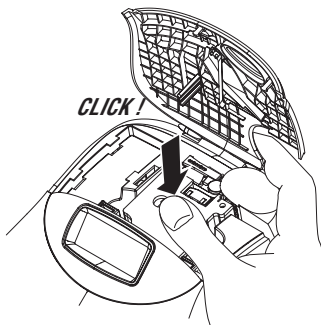

Figure 5
- Press firmly until cassette clicks into place. See Figure 5.